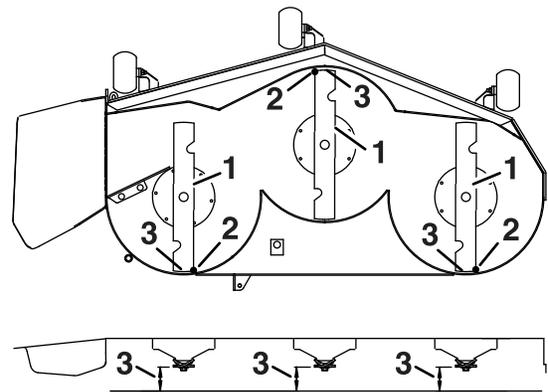

Figure 57
4. Carefully rotate the blades so they are facing front to rear (Figure 57).
5. Measure from the tip of the front blade to the flat surface and the tip of the rear blade to the flat surface (Figure 57).